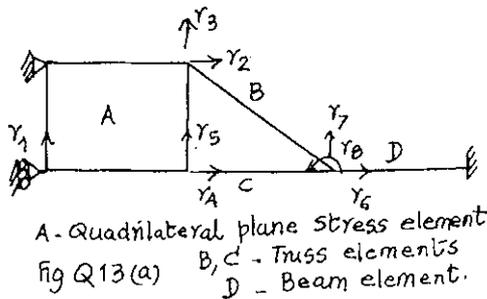

Fig. Q. 13.1
13. (a) (i) Illustrate the method of evaluating the performance of structural systems using moment. Rotation characteristics. Mention step by step procedure. (6)
- (ii) Assume element stiffness matrices corresponding to displacements shown in Fig. Q 13.1 have been calculated. Assemble these element matrices and apply boundary conditions. Explain assembly procedure and the method of applying boundary condition. (10)